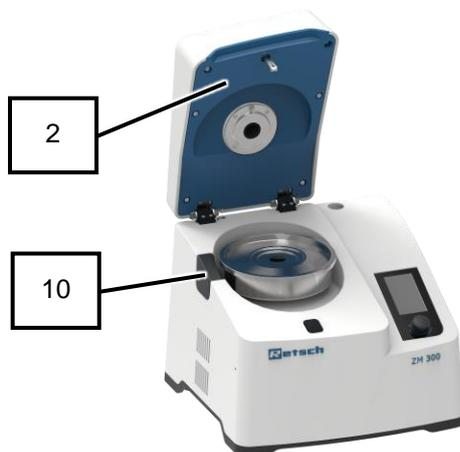

Fig. 46: Device with cassette and grinding tools
2. Open the device hood (2).
3. Switch off the device while the device hood (2) is open.
- ➔ The device is switched off and the device hood (2) is open (Fig. 46).
4. If inserted, remove the grinding tools and cassette (26) from the interior (10) (Fig. 46).
5. Pull out the rubber sleeve (9), which is the opening for the cyclone cassette (26), upwards (Fig. 46).